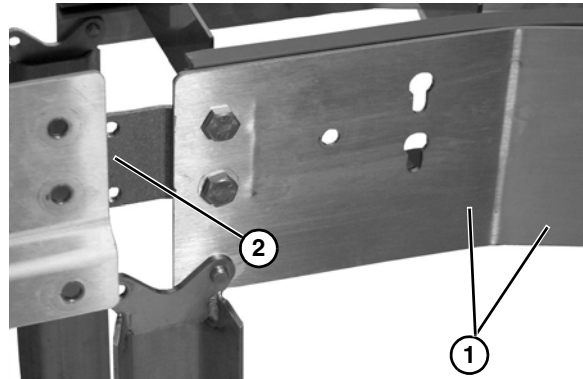

Figure 15
3. When securing straight section to curved section on inside curve (Figure 15, item 1) make sure offset plate is to the inside of straight section (Figure 15, item 2).